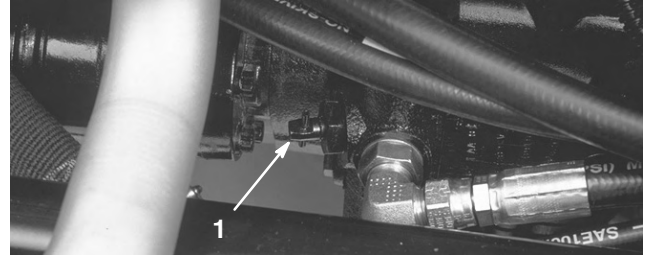

Figure 21
1. Locate the bypass valve on the pump (Fig. 21) and rotate it 90°.